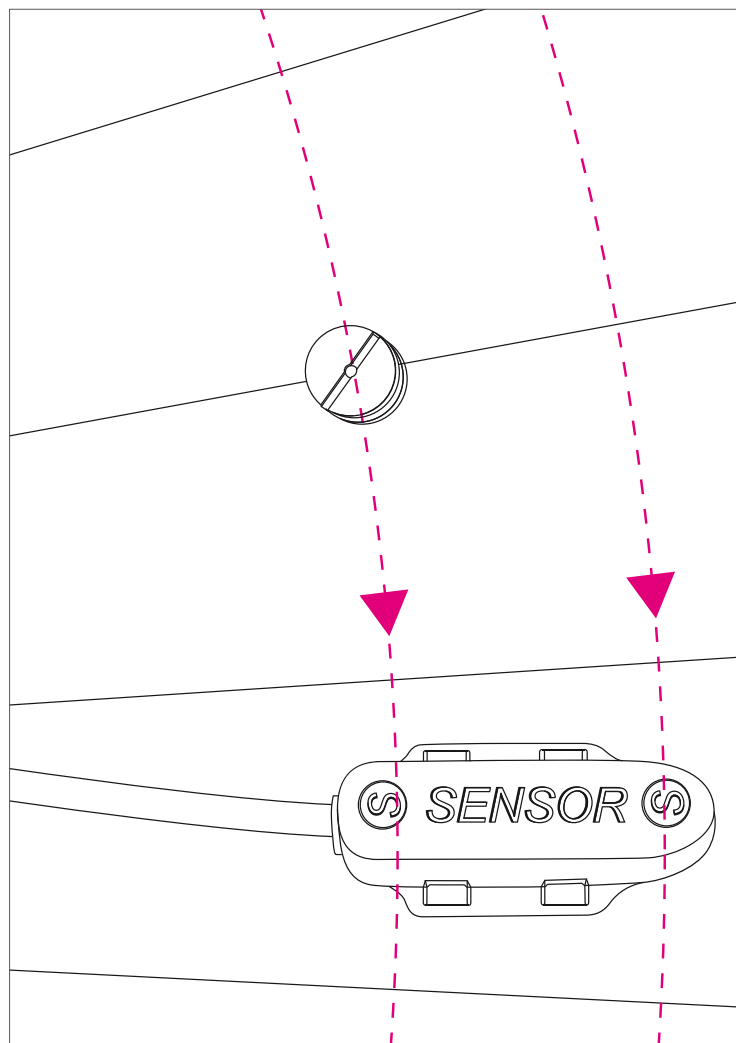

Figure 4.43 Magnet position relative to the sensor
2. Mount the magnet 1 to 15 mm from the sensor and across from one of its ends (Fig. 4.43).